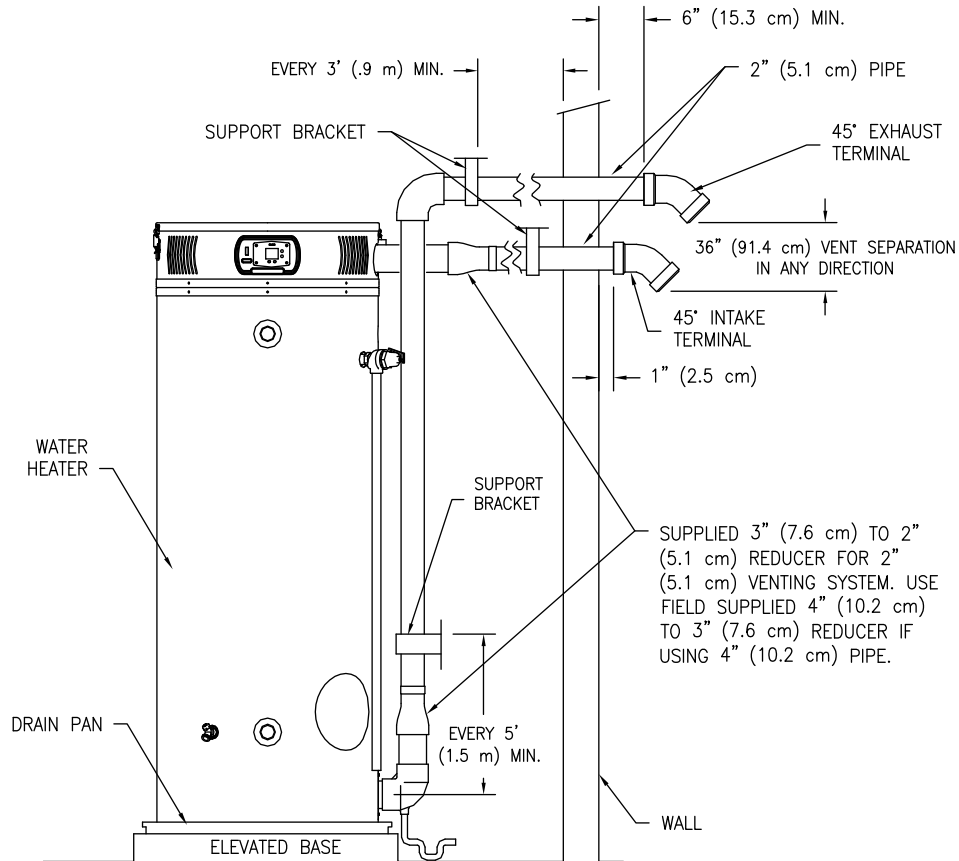

Figure 13. Typical Horizontal Direct Vent System
- Use the proper cement to secure the exhaust vent and air intake terminals provided with the water heater to the pipes. The distance between the back edge of the exhaust vent terminal and the exterior wall (see Figure 13) must be 6 inches (15.3 cm) more for the exhaust vent terminal than the air intake terminal. Use the proper cement or sealant and assembly procedures to secure the vent connector joints between the terminal and the blower outlet. Provide support brackets for every 3 feet (.9 m) of horizontal vent beyond the intake terminal.